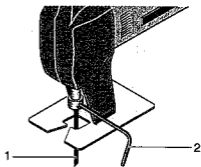

Fig. 2
1. Loosen clamp screw using the internal hex tool provided (Allen) 2 (Fig. 2).